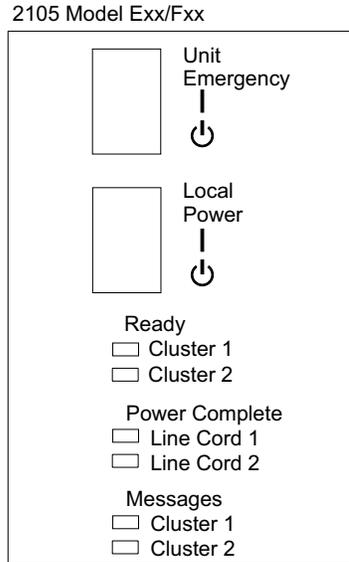

Figure 237. 2105 Model Exx/Fxx Operator Panel Locations (S008814m)
- ___ 5. Set the Local Power switch [Figure 237] to Off (down), then release it.
- ___ 6. Set the Unit Emergency switch [Figure 237] to On (up).
- ___ 7. Set the Local Power switch [Figure 237] to On (up), then release it. You may have to wait up to four minutes for the final state of the Power Complete, Line Cord indicators (indicators stop blinking and remain on).
- ___ 8. Observe the Power Complete indicators for Line Cords 1 and 2 [Figure 237] and **perform the action described in Table 15.**